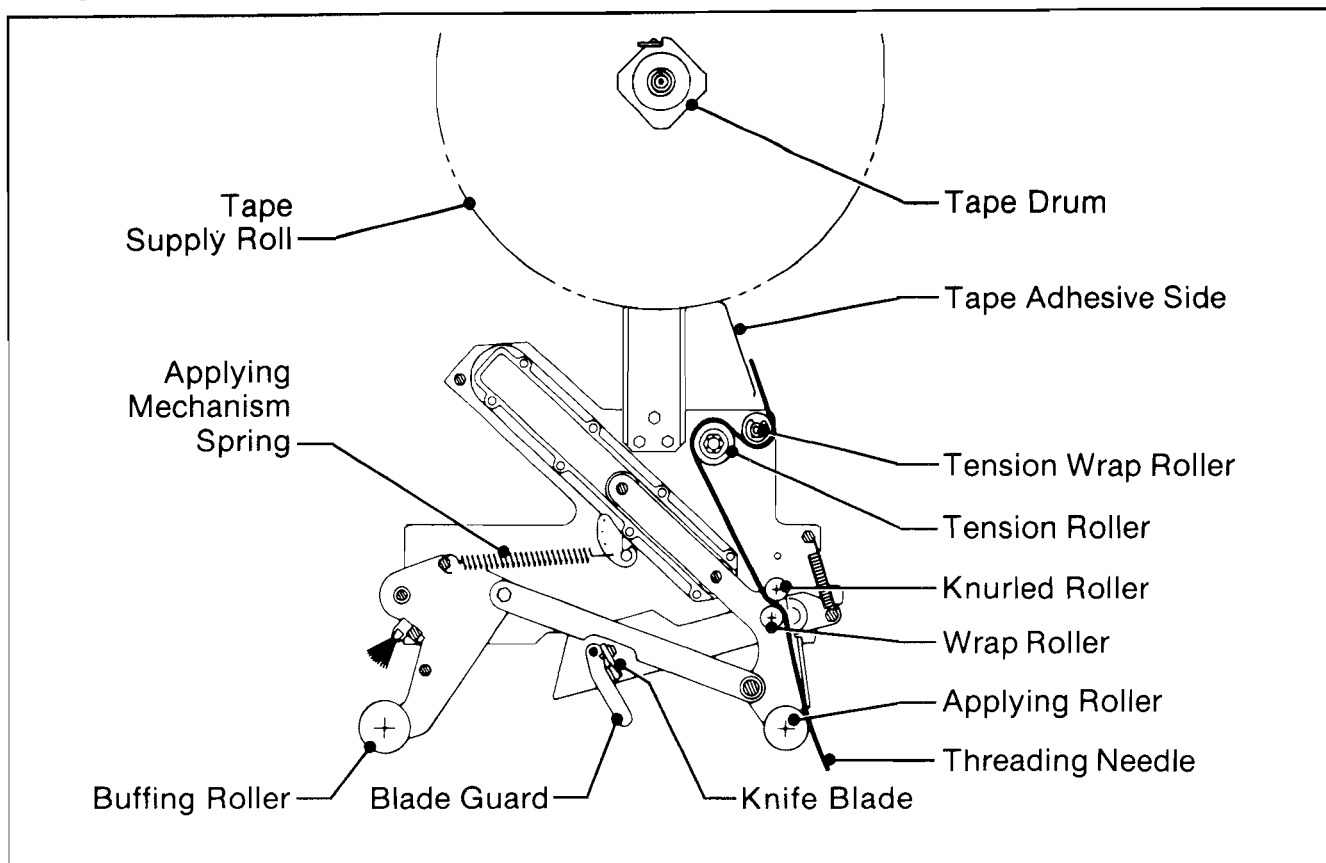

Figure 8 - Tape Threading Diagram - Top Taping Head - Left Side View
2. With the temporary threading needle already in position, as shown in Figure 8, follow the tape loading procedure from Figure 8C to complete the tape threading.
The applying mechanism spring, shown in Figures 8 and 8A, **controls applying and buffing roller pressure on the box and returns the mechanism to the reset position.** The spring pressure is **preset**, as shown in Figure 19A, for normal operation but is adjustable.